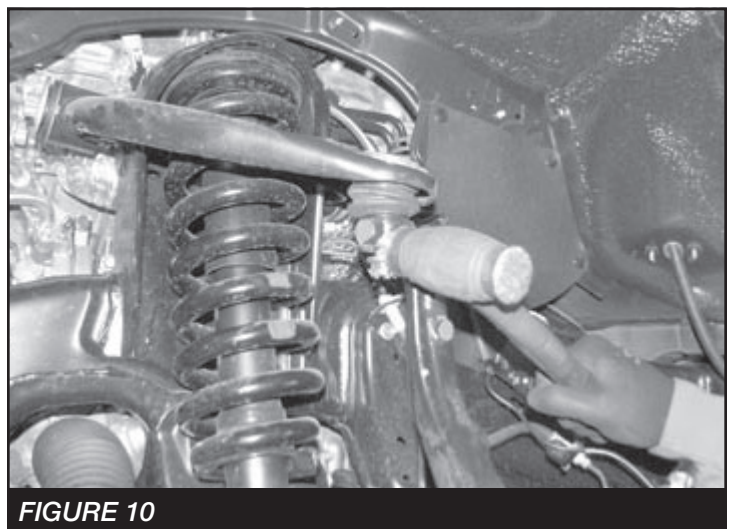

FIGURE 10
8. Remove the upper ball joint nuts. Disconnect the upper ball joints from the steering knuckle by striking the knuckle with a large hammer next to the ball joint on the knuckle to dislodge the ball joints. Use care not to hit the ball joints when removing. Retain nuts. **SEE FIGURE 10**